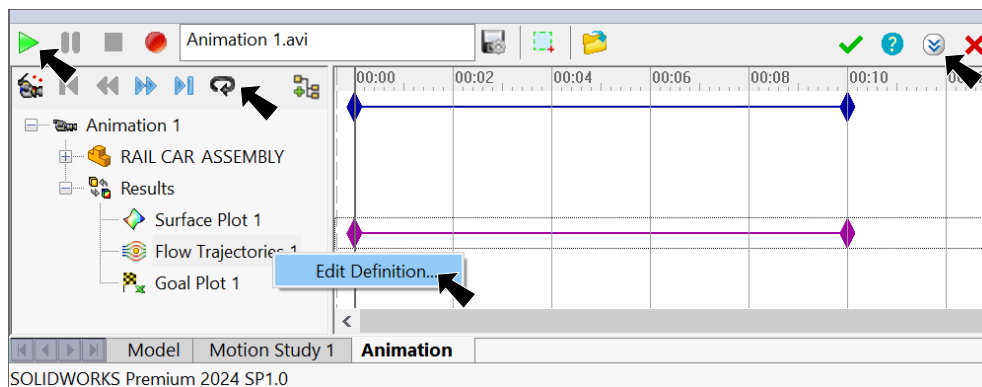

Fig. 29
- Step 3. If necessary, **Expand**  to expand the panel at the bottom right of the display in the animation control panel, Fig. 29.
- Step 4. Click **Play**  in animation control panel, Fig. 29.
- Step 5. **Right click** **Flow Trajectories 1** in the Animation tree and click **Edit Definition**, Fig. 29.
- Step 7. Click **Loop**  and **Play**  in animation control panel, Fig. 29. Click **Stop** .